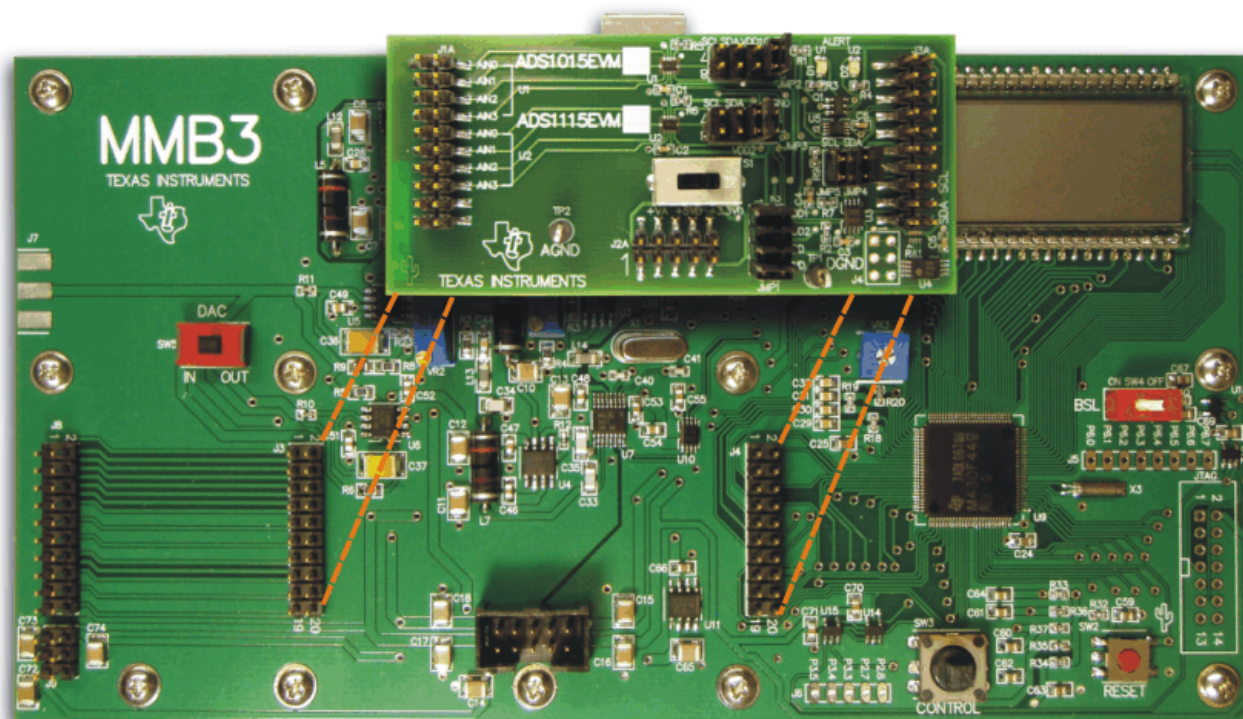

Figure 5. Connecting ADS1115EVM to MMB3
Step 3. Plug the ADS1115EVM into the MMB3 as Figure 5 illustrates.